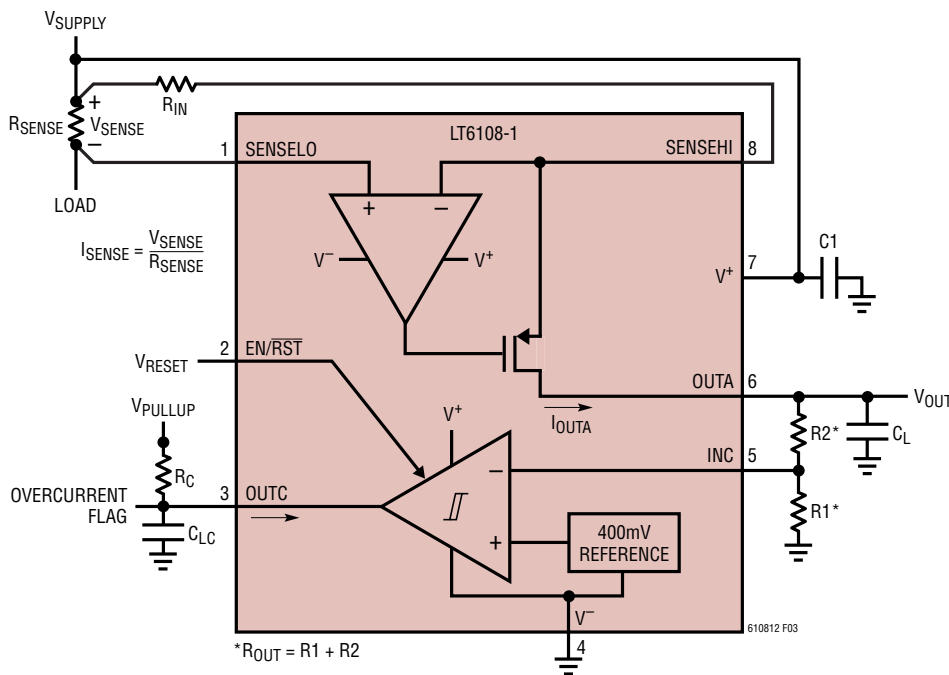

Figure 3. LT6108-1 Typical Connection
**TYPICAL PERFORMANCE CHARACTERISTICS** Performance characteristics taken at  $T_A = 25^\circ\text{C}$ ,  $V^+ = 12\text{V}$ ,  $V_{\text{PULLUP}} = V^+$ ,  $V_{\text{EN}} = V_{\text{EN/RST}} = 2.7\text{V}$ ,  $R_{\text{IN}} = 100\Omega$ ,  $R_{\text{OUT}} = R_1 + R_2 = 10\text{k}$ , gain = 100,  $R_C = 25.5\text{k}$ ,  $C_L = C_{LC} = 2\text{pF}$ , unless otherwise noted. (See Figure 3)
**TYPICAL PERFORMANCE CHARACTERISTICS** Performance characteristics taken at  $T_A = 25^\circ\text{C}$ ,  $V^+ = 12\text{V}$ ,  $V_{\text{PULLUP}} = V^+$ ,  $V_{\text{EN}} = V_{\text{EN/RST}} = 2.7\text{V}$ ,  $R_{\text{IN}} = 100\Omega$ ,  $R_{\text{OUT}} = R1 + R2 = 10\text{k}$ , gain = 100,  $R_C = 25.5\text{k}$ ,  $C_L = C_{LC} = 2\text{pF}$ , unless otherwise noted. (See Figure 3)
**TYPICAL PERFORMANCE CHARACTERISTICS** Performance characteristics taken at  $T_A = 25^\circ\text{C}$ ,  $V^+ = 12\text{V}$ ,  $V_{\text{PULLUP}} = V^+$ ,  $V_{\text{EN}} = V_{\text{EN}/\text{RST}} = 2.7\text{V}$ ,  $R_{\text{IN}} = 100\Omega$ ,  $R_{\text{OUT}} = R_1 + R_2 = 10\text{k}$ , gain = 100,  $R_C = 25.5\text{k}$ ,  $C_L = C_{\text{LC}} = 2\text{pF}$ , unless otherwise noted. (See Figure 3)
An internal sense amplifier loop forces SENSEHI to have the same potential as SENSELO as shown in Figure 3. Connecting an external resistor,  $R_{IN}$ , between SENSEHI and  $V_{SUPPLY}$  forces a potential,  $V_{SENSE}$ , across  $R_{IN}$ . A corresponding current,  $I_{OUTA}$ , equal to  $V_{SENSE}/R_{IN}$ , will flow through  $R_{IN}$ . The high impedance inputs of the sense amplifier do not load this current, so it will flow through an internal MOSFET to the output pin, OUTA.
where  $R_{OUT} = R_1 + R_2$  as shown in Figure 3.
Kelvin connection of the SENSEHI and SENSELO inputs to the sense resistor should be used in all but the lowest power applications. Solder connections and PC board interconnections that carry high currents can cause significant error in measurement due to their relatively large resistances. One 10mm  $\times$  10mm square trace of 1oz copper is approximately 0.5m $\Omega$ . A 1mV error can be caused by as little as 2A flowing through this small interconnect. This will cause a 1% error for a full-scale  $V_{SENSE}$  of 100mV. A 10A load current in the same interconnect will cause a 5% error for the same 100mV signal. By isolating the sense traces from the high current paths, this error can be reduced by orders of magnitude. A sense resistor with integrated Kelvin sense terminals will give the best results. Figure 3 illustrates the recommended method for connecting the SENSEHI and SENSELO pins to the sense resistor.